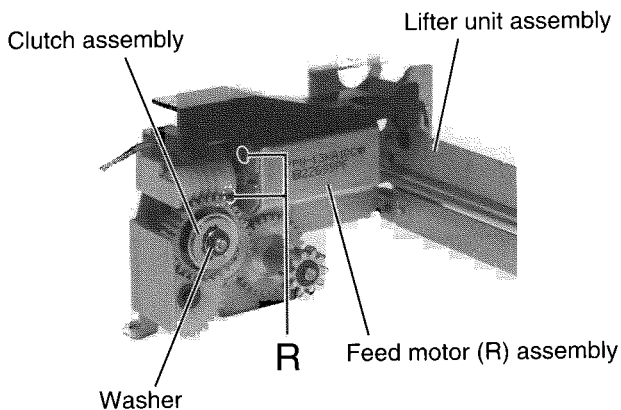

Fig.13
■ Removing the feed motor (R) (See Fig.13)